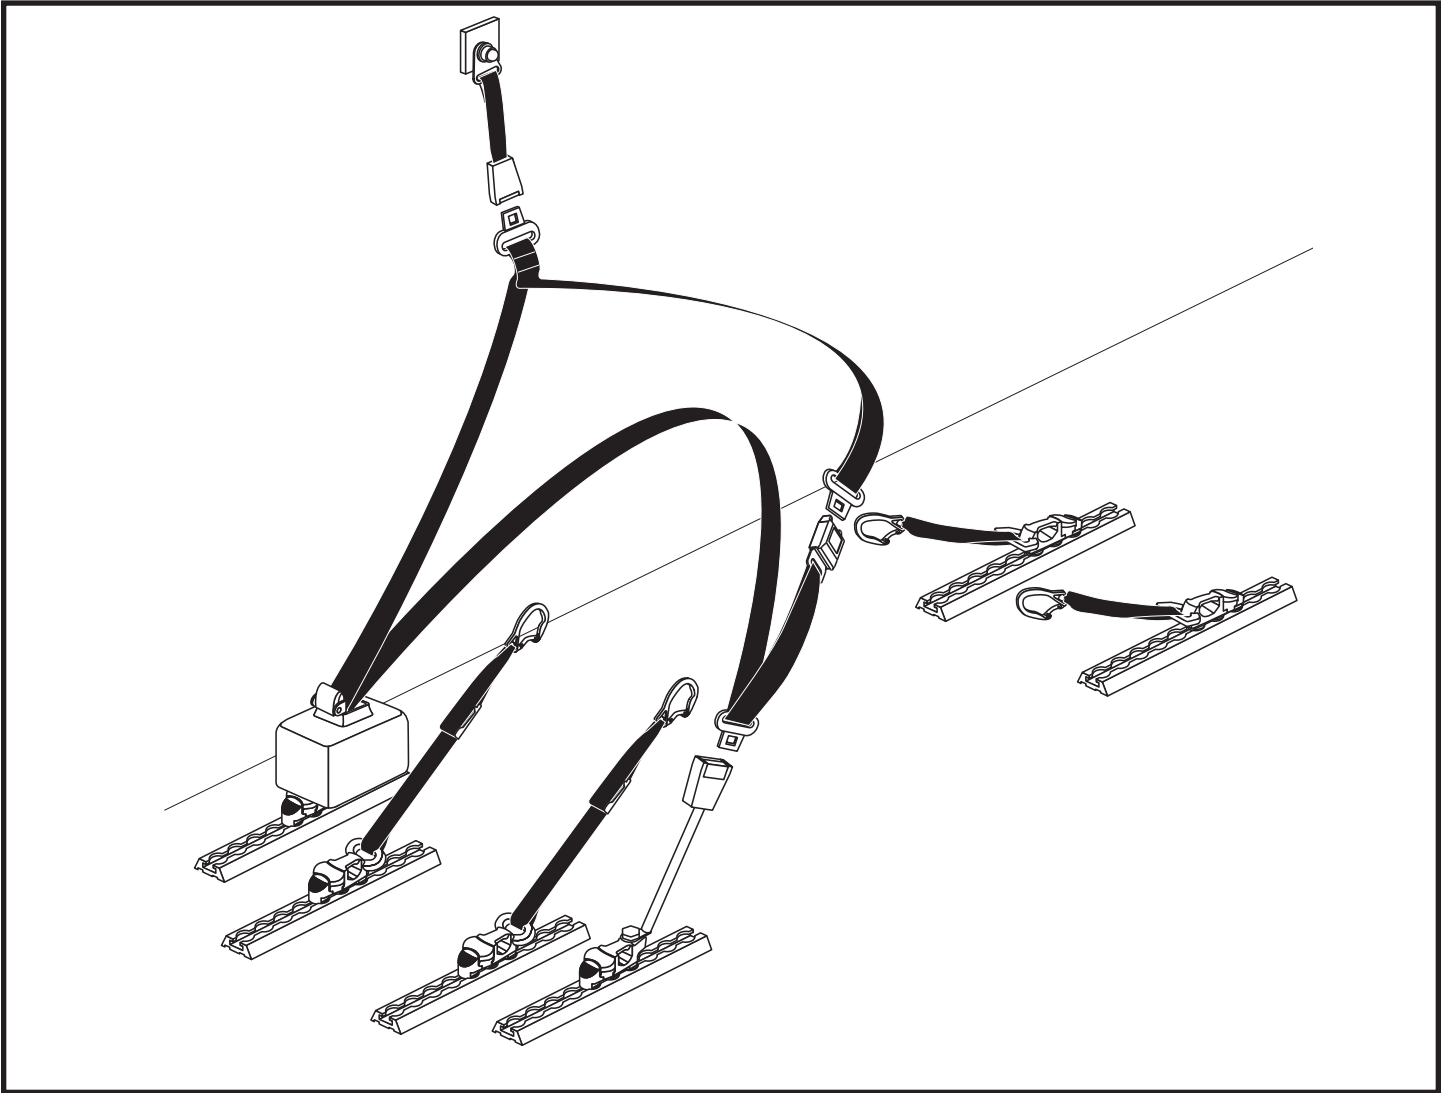

Figure 17. Vehicle-anchored Belt Restraint
- If your power chair is equipped with a crash-tested pelvic belt that is anchored to the seat frame, complete the restraint system by attaching the lower end of the WTORS upper-torso belt to the pelvic belt by referring to the WTORS manufacturer's instruction. Crash-tested power chair-anchored pelvic belts will be labeled to indicate compliance to the ANSI/RESNA WC/Vol 4, Section 19/ISO 7176-19 standards. **See figure 17.**